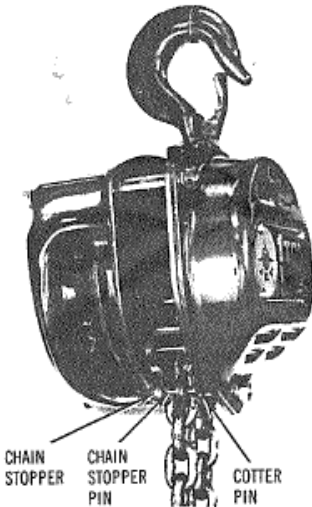

FIGURE 10
- Remove cotter pin and stopper pin on chain stopper (Figure 10).